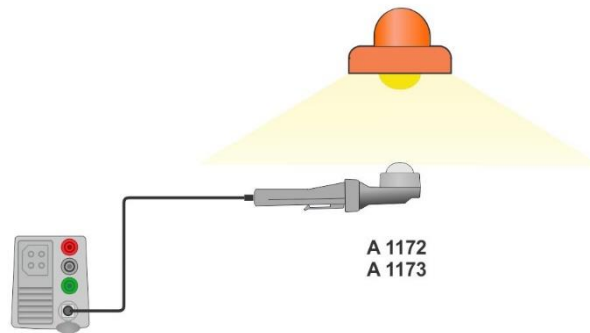

Figure 7.122: LUXmeter probe positioning
- ▶ Take the position of LUXmeter probe, see *Figure 7.122*.